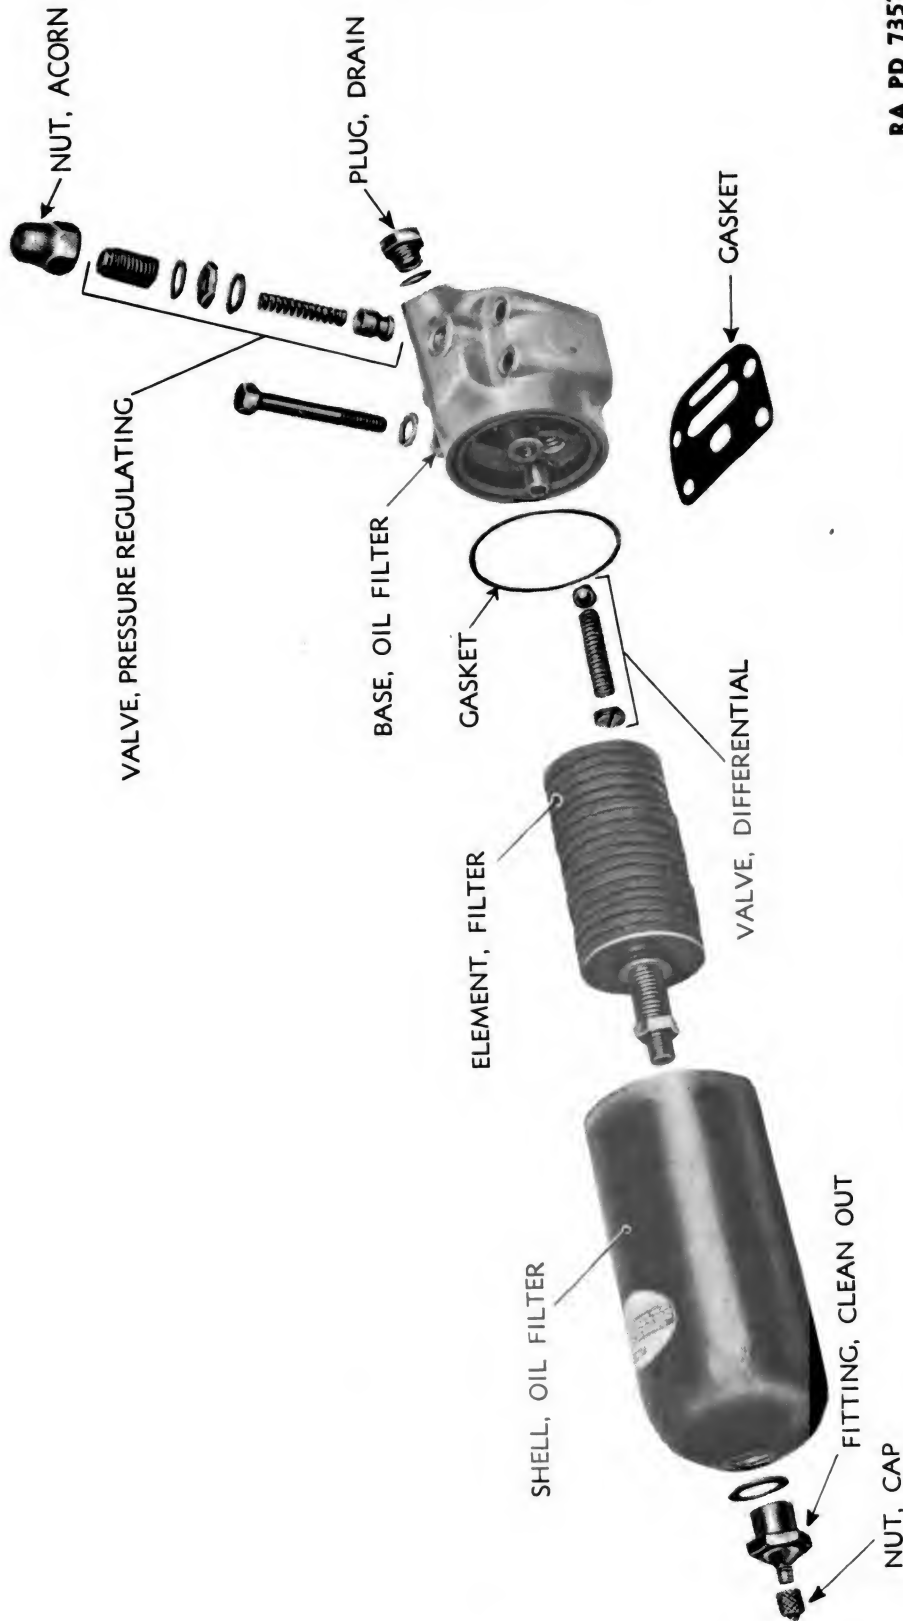

Figure 123 — Oil Filter Assembly — Exploded View
59. OIL FILTER (fig. 123).
(1) Take out sludge drain plug in bottom of filter and drain sludge.
(2) With sludge plug removed, remove cap nut from top of filter, and blow out the filter with compressed air.
(3) Remove clean-out fitting at top of shell, and remove shell. Scrape all sludge and foreign matter from the filter element with wood paddle.
h. Oil Pressure Regulating Valve (fig. 123).
(1) **REMOVAL.** Refer to procedure outlined in subparagraph c (3) above.